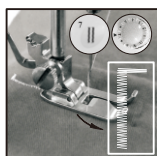

Fig. 18
- (3) Choose the stitch pattern #7, turn on switch and sew on the cloth in suitable length, then turn off switch. Note that try to keep sewed stitch in straight line (Fig. 18).